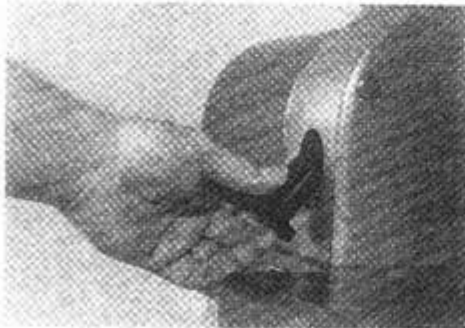
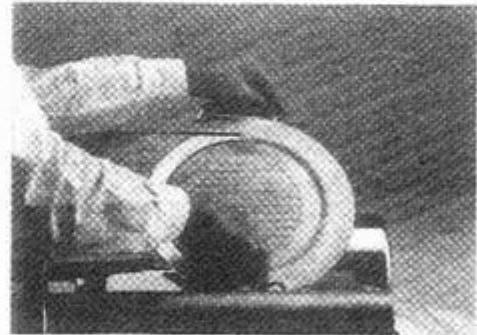

Figure 14-2
Figure 14-3
4. **KNIFE COVER:** The knife cover is removed by completely loosening the knife cover release knob. (Fig. 14-2) While holding the knobs on the knife cover, lift upward to remove. (Fig. 14-3) Slicer will not start with knife cover removed.